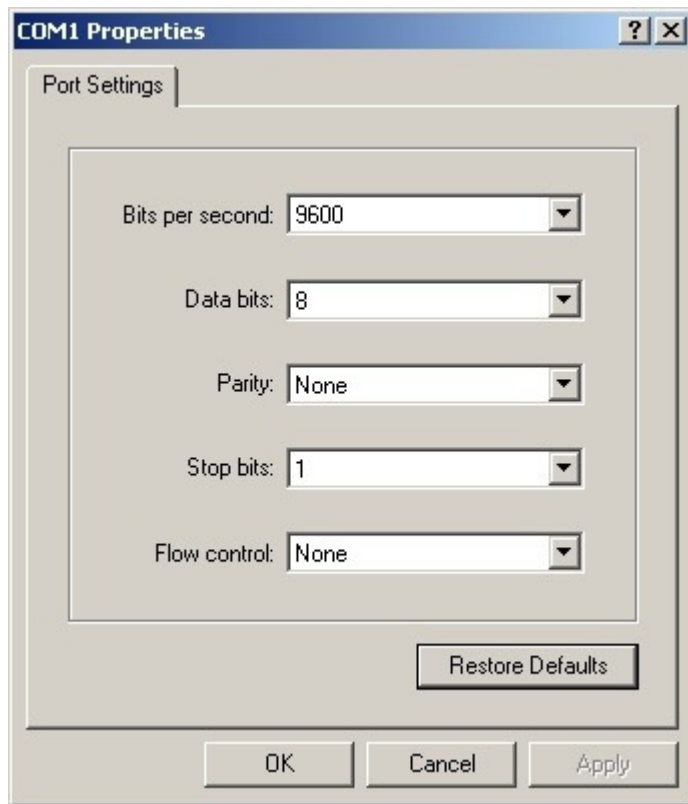

Figure 3. Com Port Properties Window
5. The COM1 Properties window will appear (Figure 3). Set the fields as follows: Bits per second to 9600 and Flow control to None. Then press the OK button.